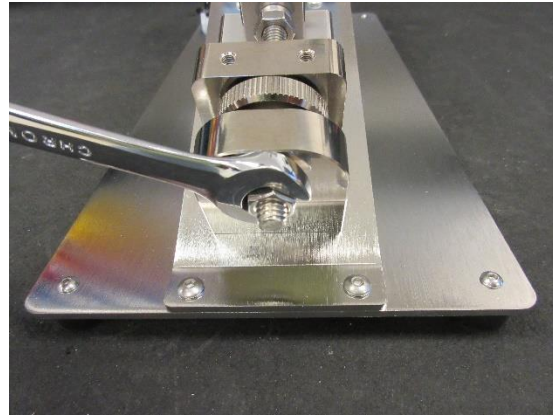

Figure 3.2.3
- Using a 9/16” open end wrench, ensure the 3/8” lock nut is hand tight by turning clockwise. *Figure 3.2.3*